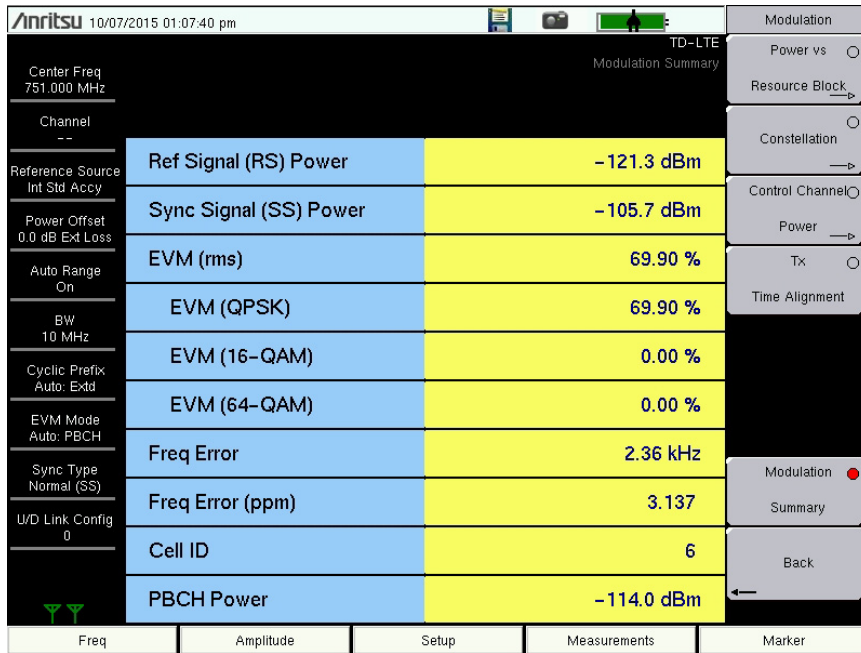

Figure 6-11. Modulation Summary
3. Press the Modulation Summary submenu key to activate and display the modulation measurements in table format (Figure 6-11).